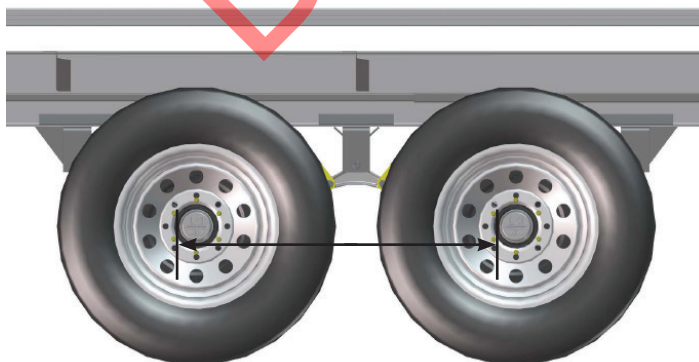

Fig.29
6. Measure the center-to-center distance between the hubs on both sides of the trailer. Measuring from the edge of one dust cap to the same edge of the other dust cap will result in the same center-to-center measurement (**Fig.29**).